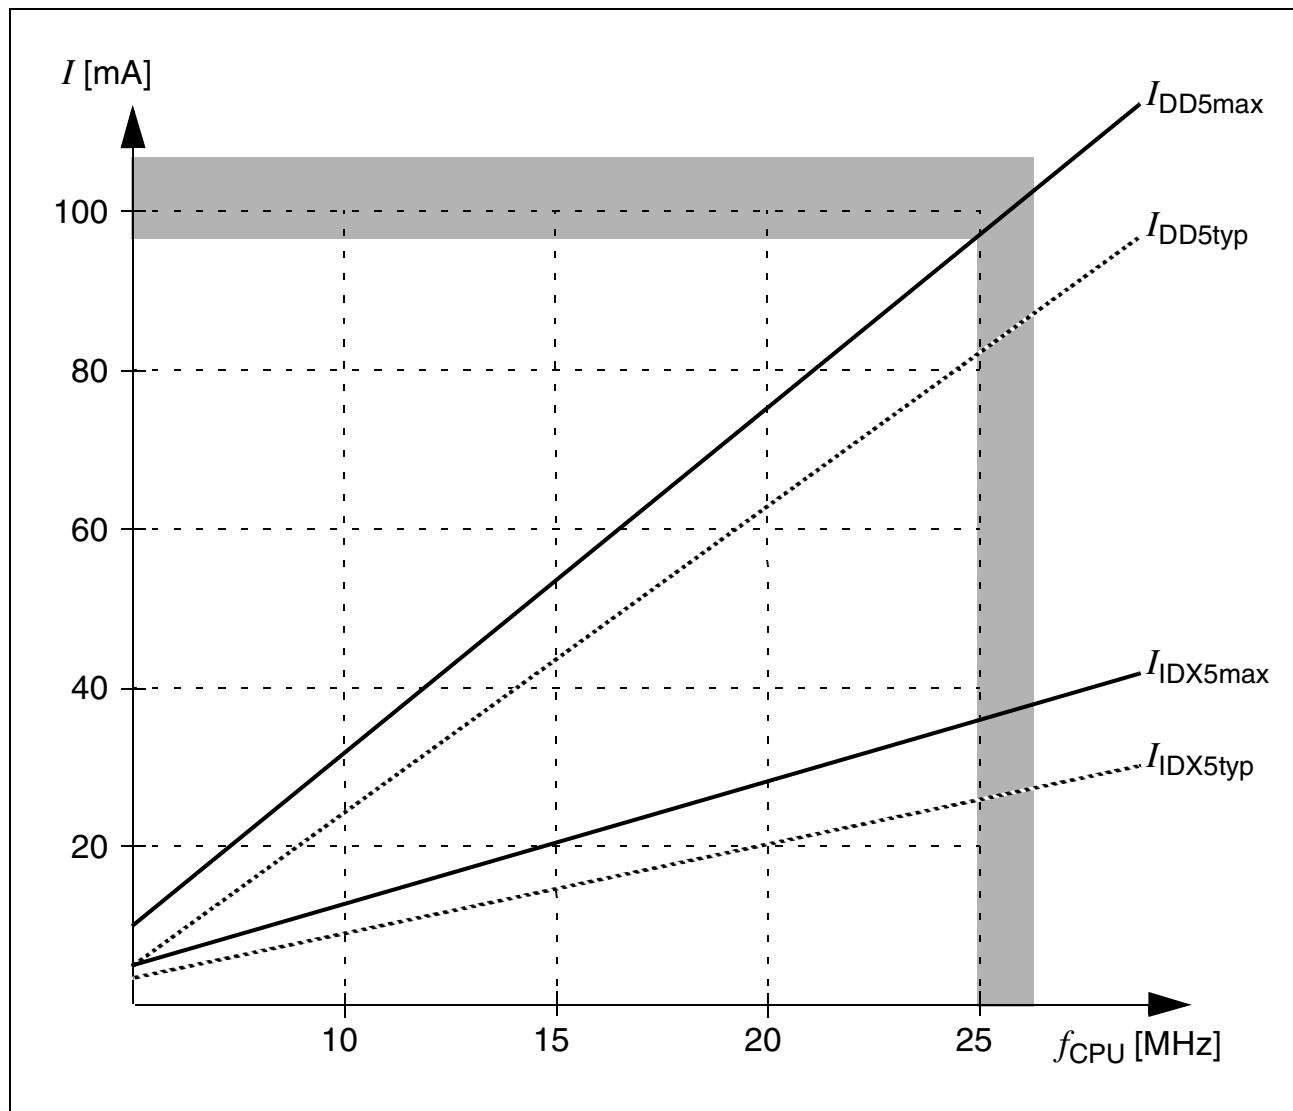

Figure 10 Supply/Idle Current as a Function of Operating Frequency for OTP Derivatives
- 1) The supply current is a function of the operating frequency. This dependency is illustrated in **Figure 10**. These parameters are tested at V_{DDmax} and maximum CPU clock with all outputs disconnected and all inputs at V_{IL} or V_{IH} .